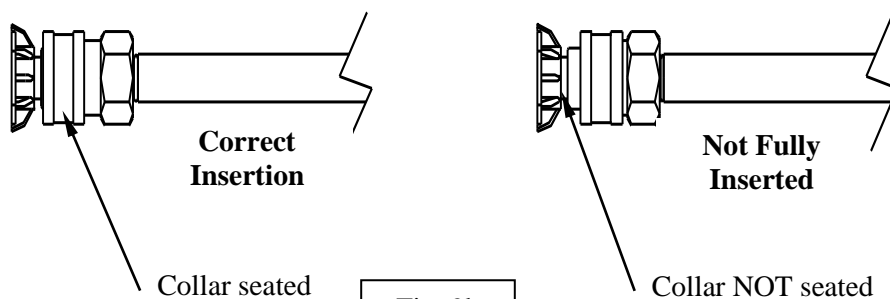

Fig. 9b
3. Release the collar, making sure it springs back and re-seats to its original (non-retracted) position. (Fig. 9b). *Check the connection by pulling on the nozzle to ensure a tight connection -- if correctly inserted, nozzle will rotate but not pull out.*